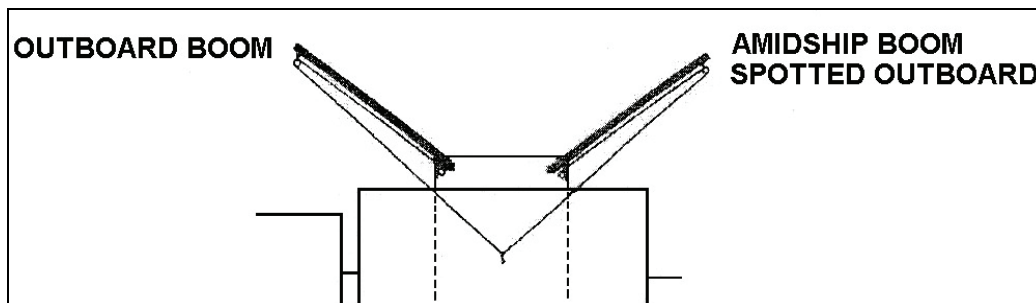

Figure 3-113. Rigging of Wing-and-Wing Rig
3. Supervise the rigging of a wing-and-wing rig (see Figure 3-113).